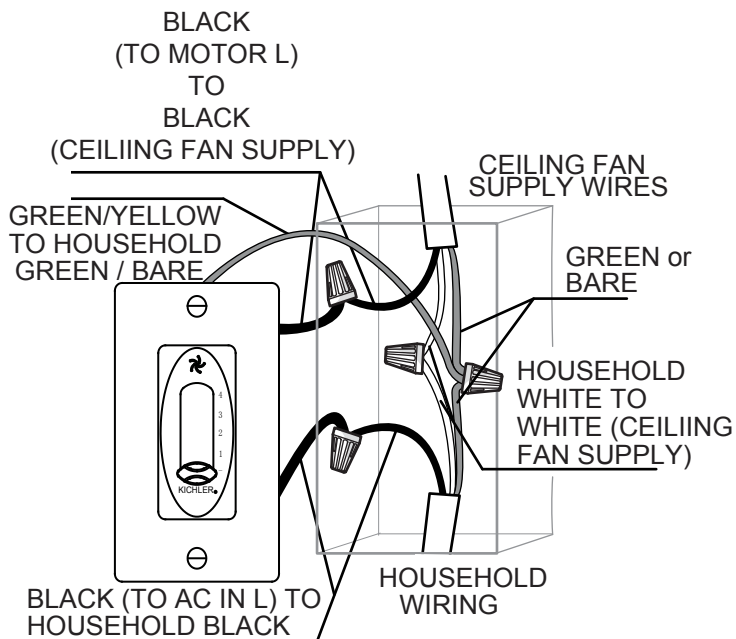

Fig. 20
Step 2. Connect the green/yellow wire from wall control to the green or bare wires in the outlet box, secure with the wire nut. (Fig. 20)
Step 3. Connect the household white wire to the white wire to the ceiling fan, secure with a wire nut. (Fig. 20)
Step 5. Connect the household black wire to the black wire marked "TO FAN", secure with a wire nut. (Fig. 20)
Step 6. Separate the black wires from the white and green wires. Turn the green and white wires into the outlet box. (Fig. 20)
Step 7. Turn the black wires into the outlet box. (Fig. 20)